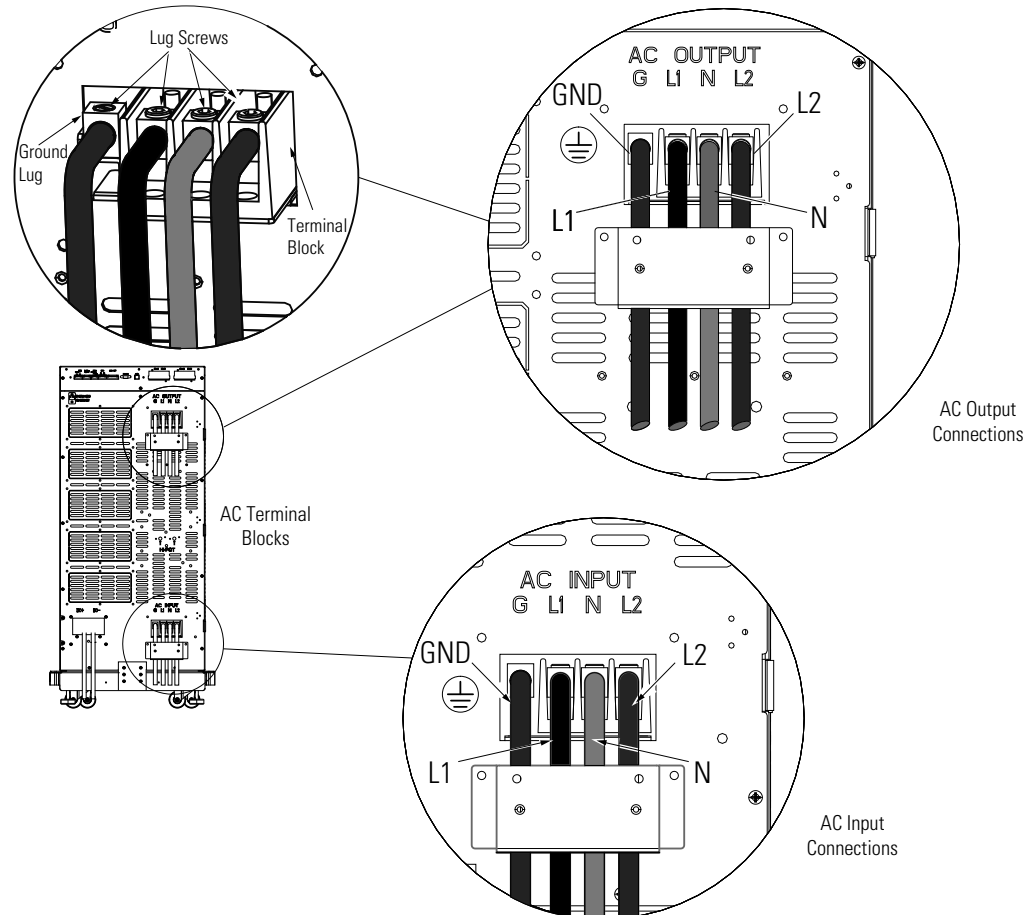

Figure 34. UPS Input and Output Terminal Connections
3. Make the UPS input and output connections to the terminal blocks on the rear panel (see Figure 34):